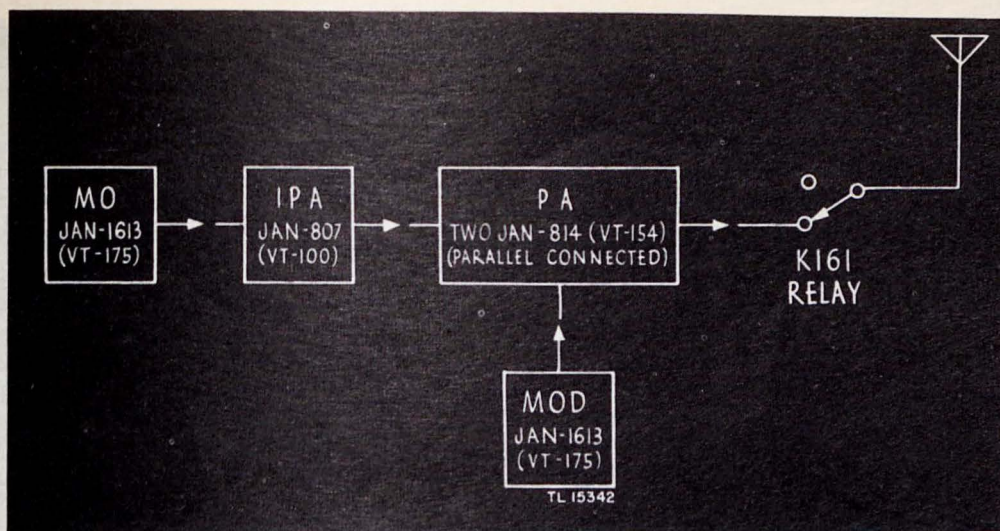

Figure 51. Radio Transmitter BC-653-A, block diagram.
87. BLOCK DIAGRAM OF RADIO TRANSMITTER BC-653-A (fig. 51).
b. Block Diagram of Radio Transmitter BC-653-A (fig. 51).